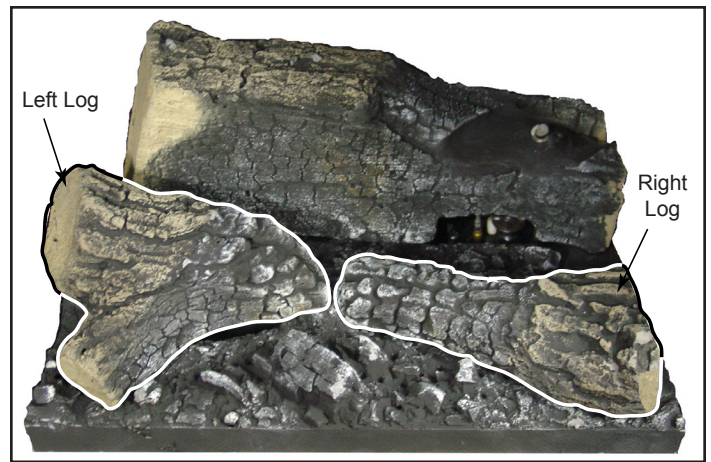

Figure 58
2. Place the left front log on the pin locator on ember bed. Position the log over the air inlet hole and on notched out portion of ember bed, Figure 58.
3. Place front right log on ember bed by mating notch on bottom of log with raised notch on ember bed. Position over the air inlet hole and on notched out portion of ember bed, Figure 58.